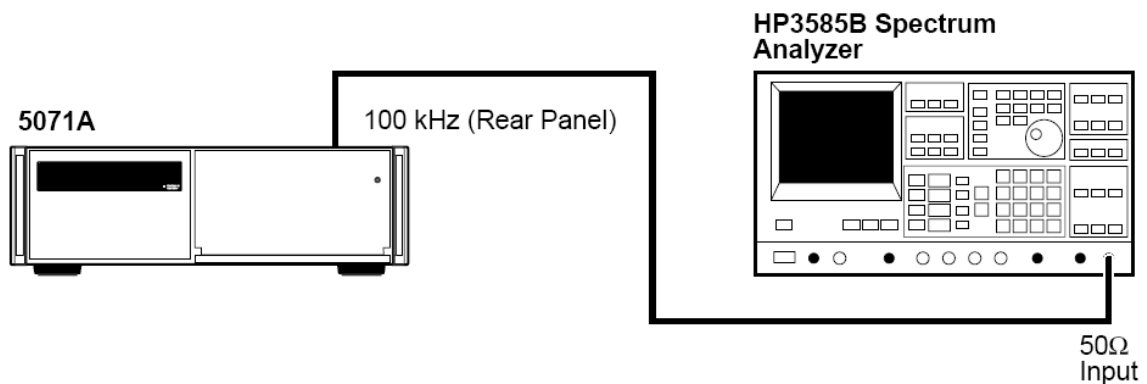

Figure 1-6. 100 kHz Harmonic Distortion Test Setup
- 1 Connect the 5071A 100 kHz output to the 3585B Spectrum Analyzer as shown in Figure 1-6. Set the 3585B for 50 Ω input impedance.